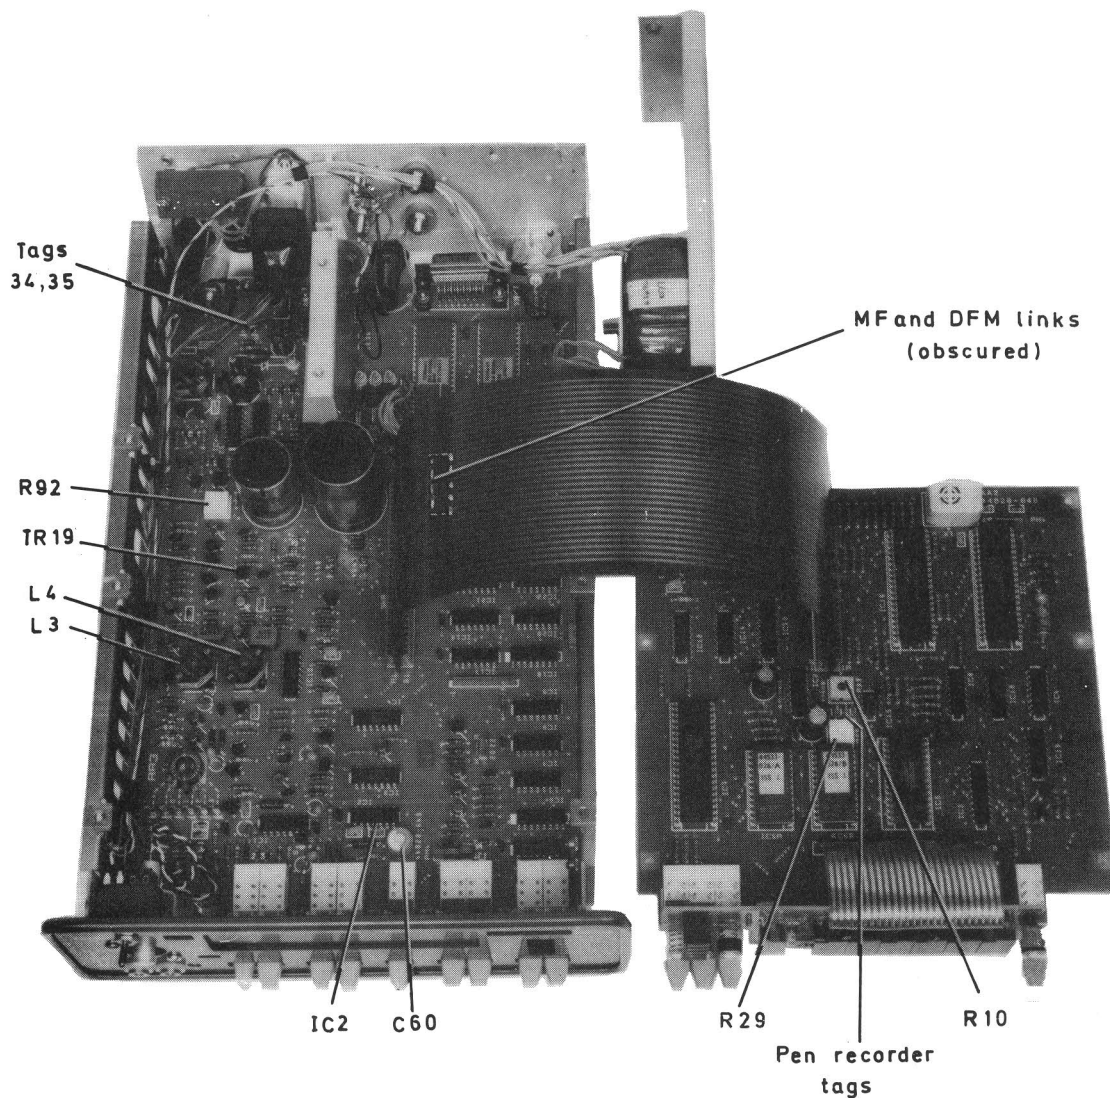

Fig. 11 Access layout of circuit boards, adjustment and test points
21. To access the rear section of the bottom board AA3, unscrew the seven screws securing the transformer chassis to the side panels, rear panel and heat sink. Lift out the transformer chassis with the transformer affixed and stand it away from the rear panel, see Fig. 11.
23. Adjustment and testing of the printed circuit boards can be carried out when the boards have been made accessible. Remove the interconnecting board from SKA on AA3 and fit the flexible extender board (part no. 46883-513K supplied as an optional accessory) between edge connectors SKA on boards AA12 and AA3. Fig. 11 shows the layout and position of the adjustment and test points on boards AA1, AA12 and AA3.